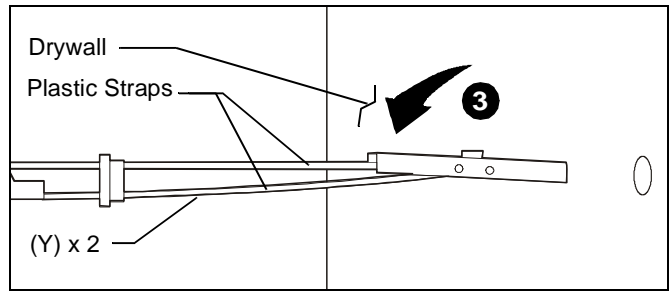

Figure 14
3. Hold metal channel on anchor (Y) flat alongside plastic straps and slide channel through hole. (See Figure 14)